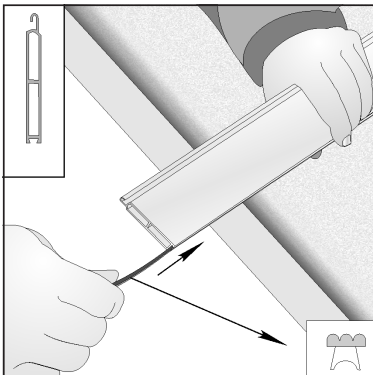

Fig. 03
- installing the sealing insert in the end slat profile (Fig. 03);